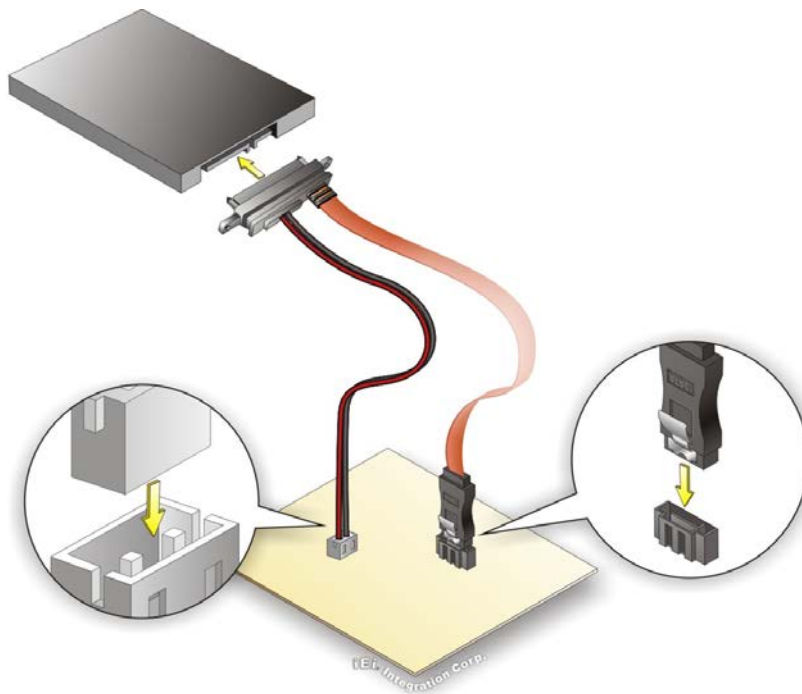

Figure 4-23: SATA Drive Cable Connection
- Step 2: Insert the cable connector.** Insert the cable connector into the on-board SATA drive connector and the SATA power connector. See **Figure 4-23**.
Step 3: **Connect the cable to the SATA disk.** Connect the connector on the other end of the cable to the connector at the back of the SATA drive. See **Figure 4-23**.